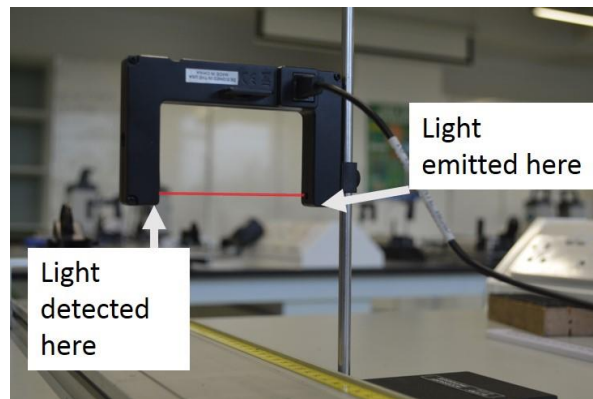

Fig 2
- The photogates comprise an infrared light source on one side, and a detector on the other, fig 2. Infrared light is invisible to the human eye, but is represented by the red line in the figure. When the beam is interrupted it sends a signal to the blue data logger.